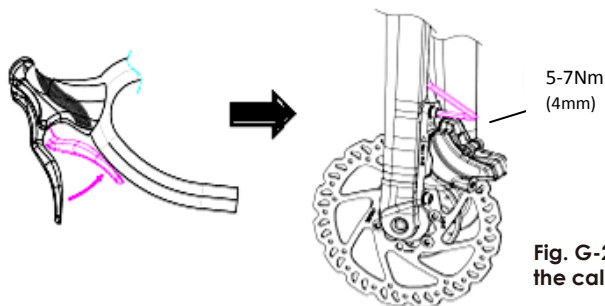

Fig. G-2 Pull brake lever & tighten the caliper to 5-7Nm
- To align the caliper, securely attach the wheel according to the bicycle owner's manual, pull the brake lever firmly and hold to self-align the caliper on the rotor while tightening the caliper mounting bolts with a torque of 5-7 Nm (**Fig. G-2**).